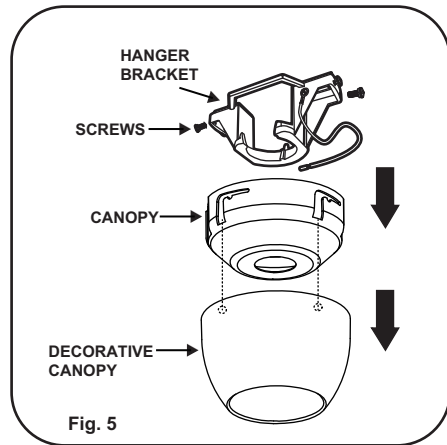

Fig. 5
Step 1. Remove the decorative canopy from the canopy assembly by turning the decorative canopy counterclockwise. (Fig. 5)